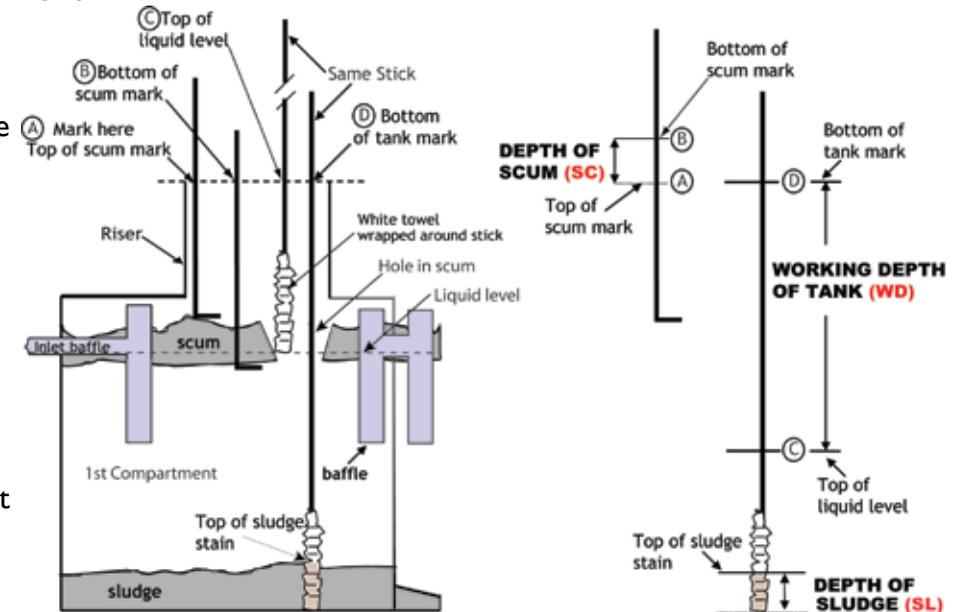

FIGURE 1 - SCUM DEPTH (SC), SLUDGE DEPTH (SL) AND WORKING DEPTH OF TANK (WD)
3. Place the scum stick down the manhole of the first compartment of the tank until it rests on top of the scum layer (see Figure 1) and mark the scum stick where it crosses the reference point (A).
5. Mark the scum stick where it crosses the reference point (B).
4. Carefully lower stick through the hole in scum in first compartment until it rests on top of the liquid layer. Mark the stick where it crosses the opening of the manhole or riser (C in Figure 1).
6. Mark the sludge stick where it crosses the board (D in Figure 1). The distance between the two marks (C and D) is the working depth of the tank (**WD**).